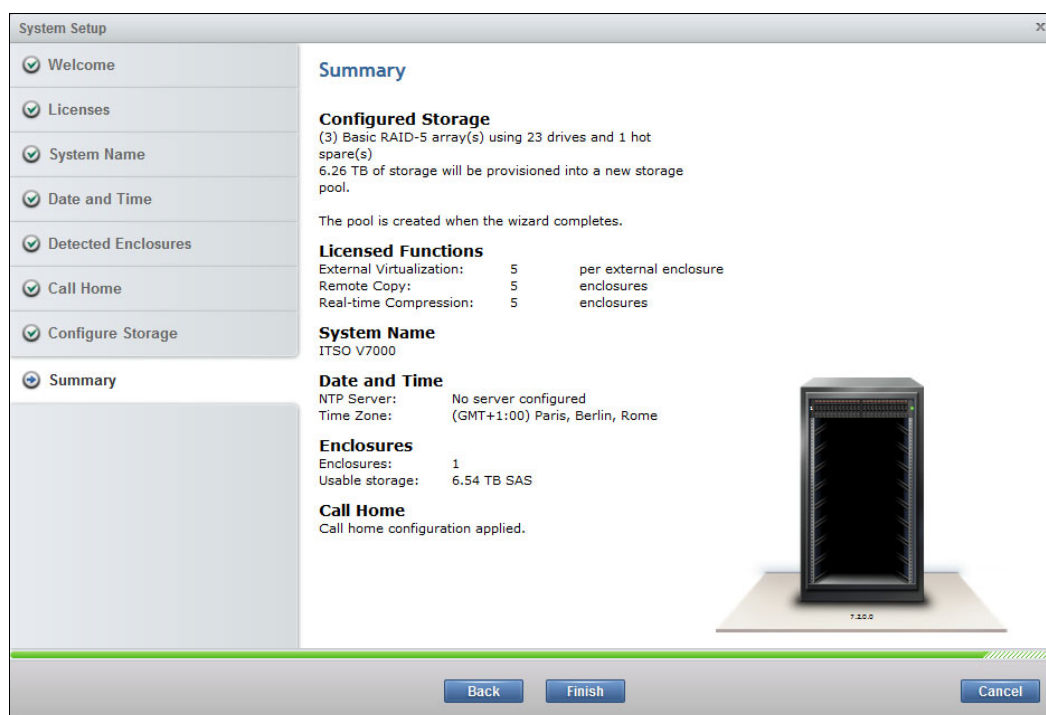

Figure 2-28 System Setup Summary
8. Review the summary of the system configuration (Figure 2-28).